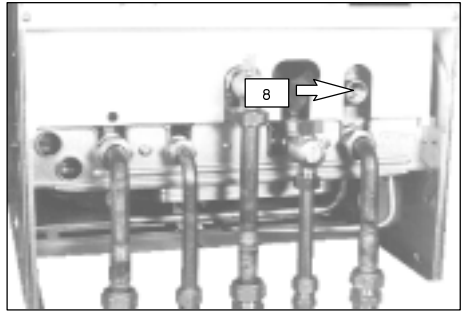

fig. 3.4 (bottom view of the boiler)
- 5 Connect the pressure relief valve's outlet to a drain (8 in fig. 3.4).